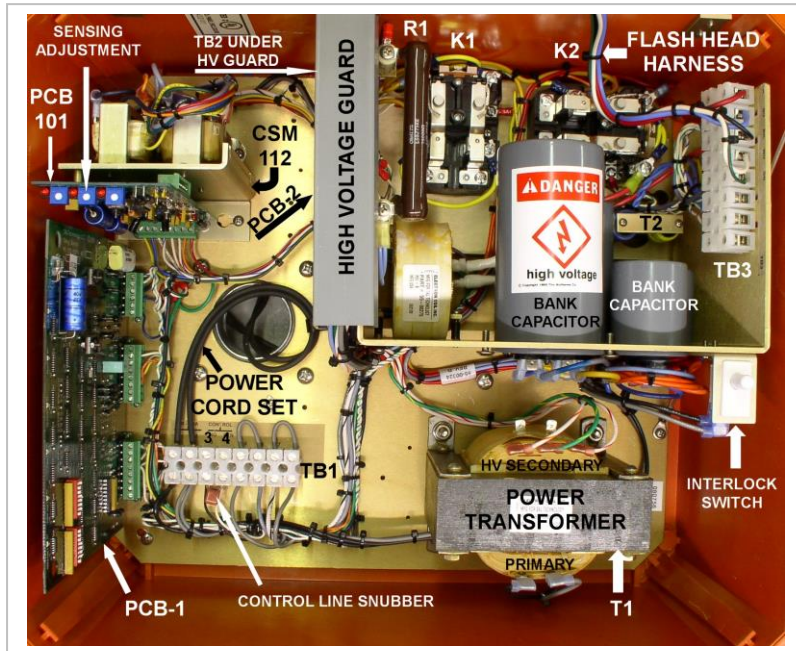
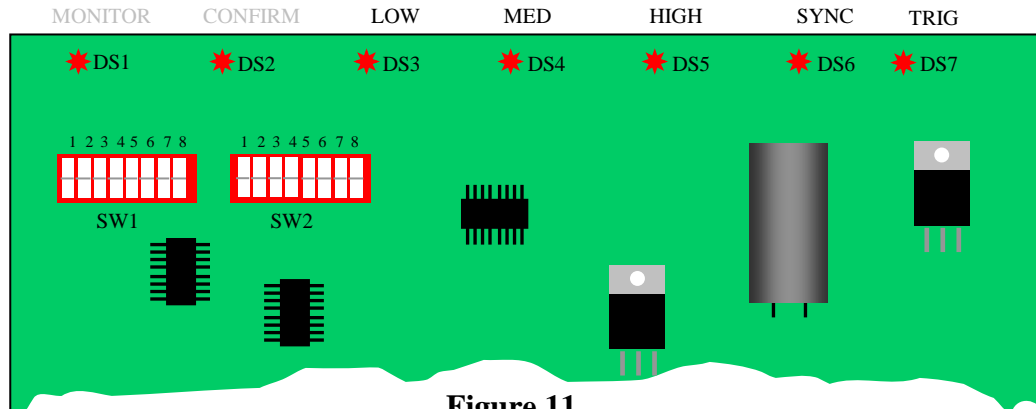
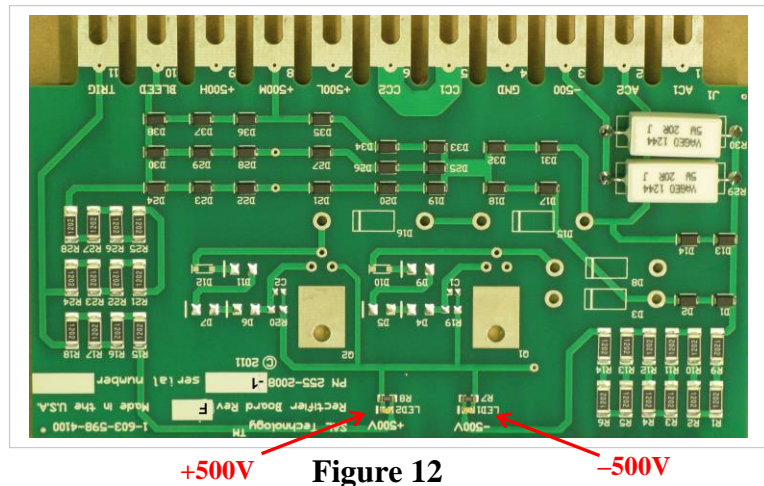

Figure 9
Figure 11
Figure 12
- Check screw tightness on TB1 and TB3 (See Figure 9 for locations). Check every position that has a wire connection whether to external wiring or to internal circuits.
It is important to know where the major components are located, especially when attempting to follow troubleshooting procedures. Use Figures 9 and 10 for this information. A slave power supply does not have a CSM 112 Current Sensing Module; it is otherwise identical to a master power unit.
Each power supply has two circuit boards with indicator lights that can be used to interpret operating conditions. PCB-1 (Figure 11) is the timing and control circuit board. Its location is shown in Figure 9. It has seven red LEDs, but only five of these apply to standard functions. DS1 and DS2, labeled Monitor and Confirm, are used only when the Monitoring option has been elected at the time of purchase. SW1 and SW2 are programming switches
PCB-2 does not show in Figure 9, but its location is noted. It is shown in Figure 12 as it would be observed when installed, (i.e. upside-down). There are two LEDs at the bottom of the board. These LEDs are lit when high voltage is present. LED1 is for –500 volts; LED2 is for +500 volts. Both LEDs must be lit for flashing to occur.
Be sure that the power supply connected to this flash head has been turned off and that LED1 or LED2 on PCB-2 are not lit (see Figure 12). The interlock switch in the power supply removes power when the cover is open; however, removing primary power by disconnecting it at its source to the system is recommended for safety.